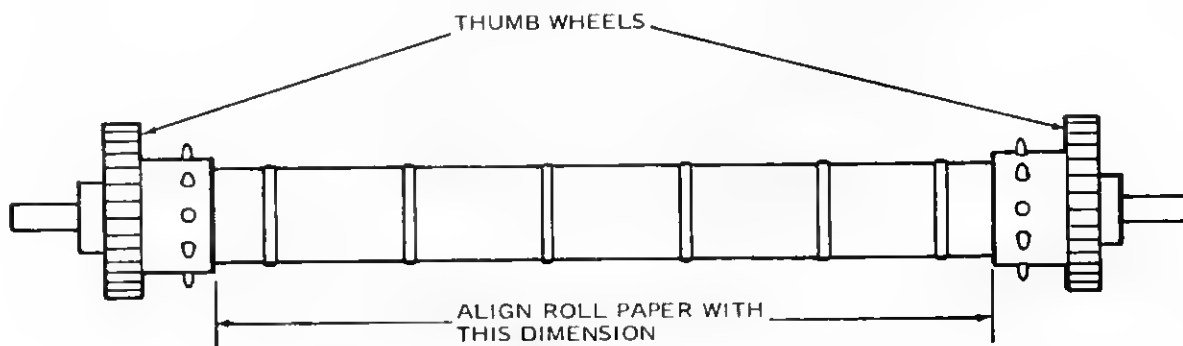

Figure 3. PAPER DRIVE ROLLER
7. Remove any skew between paper roll and the paper-drive roller by sliding the roll on the holder axle to align the paper as shown in Figure 3.